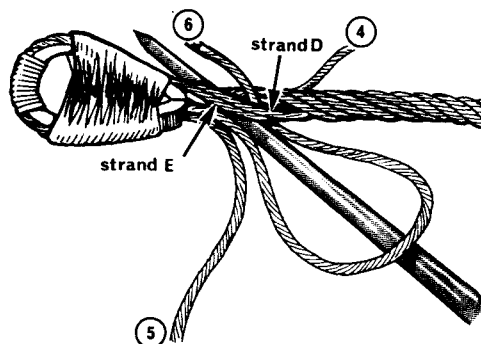

Fig 9.10 Splicing a Hard Eye (6)
- It should now be possible to see two strands on the standing part that have not been levered clear or had strands tucked under them—strands D and E in Fig 9.10. Lever *both* these strands clear with the ice pick.
- Take up the tucking strand *nearest* to and *above* the ice pick—strand 6 in Fig 9.10—and tuck this strand under *both* of the standing strands levered clear (Fig 9.10).